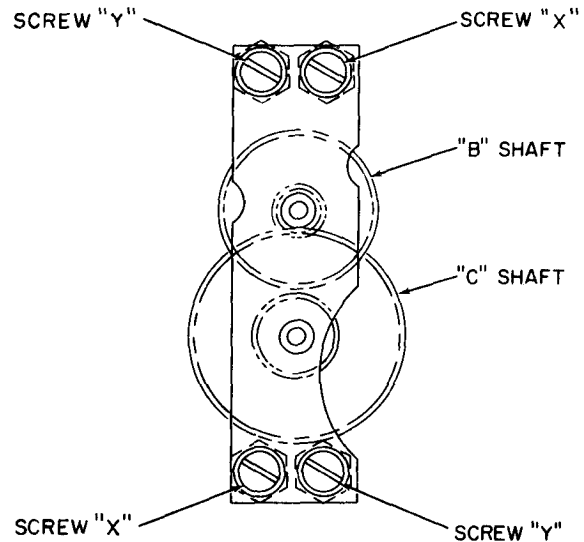

Figure 2-9. Speed Decreaser Adjustments.
(4) Assemble two bearings (66) to bearing plate (62), and carefully align bearing plate (62) with previously assembled speed de- creaser assembled speed de- creaser assembly components. Attach bearing plate (62) and entire speed de- creaser assembly to servo plate assembly (67), using two screws (64) and two lockwashers (65). Thread screws (63 and 64) into gear plate posts (59). Do not tighten screws.
(5) Refer to figure 2-5 and tighten all four screws (56). Now tighten screws (64). (Screws (64) are designated "Y" in fig. 2-9). Check that gears (60 and 61, fig. 2-5) can run freely. Do not tighten screws (63) (Screws 63 are designated "X" in fig. 2-9). Screws (63) should be engaged for. at least 1/16" of threads.
(6) With "B" shaft assembly (fig. 2-9) locked, shaft "C" should be free and non-sticking. Replace gear clusters if backlash is excessive.
(7) Install slip ring (49) on gear shaft assembly (50) and install gear shaft assembly using four screws (52), flat washer (53), and pin (51).
(8) Install insulator (44), Install trun- nion block (45) using four screws (46), four washers (47), and four nuts (48),
(9) Install terminal board (40) using two screws (41), two washers (42) and two washers (43). This completes the yoke assembly.
(10) Install spur gear (39) and tighten setscrew (11). Load spur gear by rotating gear approximately three teeth and then inserting a locking pin. (This pin is temporarily installed.)
(11) Install bearings (38) and (29).
(12) Install bearing housing (33) using screws (34) and (35), two screws (36), and lock- washers (37).
(13) Install yoke (54).
(14) Install shims (32) and thrust washer (31). Secure with retaining ring (30).
(15) Remove locking pin from spur gear (39).
(16) Referring to figures 2-5 and 2-9, position the speed de- creaser so that there is min- imum backlash or binding of speed de- creaser gears (60 and 61, fig. 2-5). Then tighten both "X" screws (fig. 2-9). Again check gears for minimum backlash and binding. If necessary, loosen "X" screws and repeat adjustment to obtain required results.
(2) Install four screws (42) and lockwashers (43) in bearing plate (41) and thread screws into four gear plate posts (38). Do not tighten screws (42).
(3) Install gear clusters (39 and 40).
(4) Assemble two bearings (37) to bearing plate (38), and carefully align bearing plate (33) with previously assembled speed de- creaser assembly components. Attach bearing plate (33) using two screws (34), two screws (35) and four lockwashers (36). Thread screws (34 and 35) into gear plate posts (38). Do not tighten screws
(5) Refer to figure 2-6 and tighten all four screws" (42). Now tighten two screws (34). (Screws 34 are designated "X" in figure 2-9.) Check that gears (39 and 40, fig. 2-6), can run freely. Do not fully tighten screws (35). (Screws (35) are designated "Y" in figure 2-9.) Screws (35) should be engaged for at least 1/16" of threads.
(6) With "B" shaft assembly (fig, 2-9) locked, shaft "C" should be free and non-sticking. Replace gear clusters if backlash is excessive.